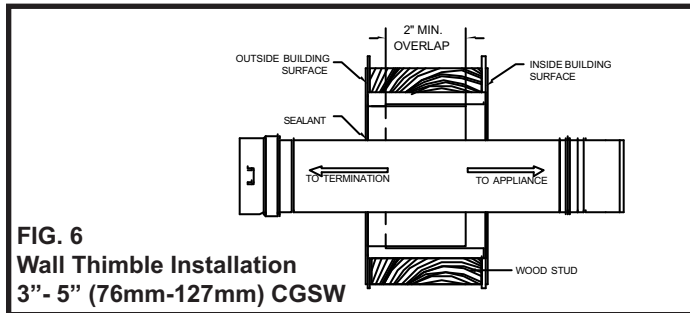

FIG. 6
6. Once the Thimble is installed, Corr/Guard II vent pipe can be inserted into the Thimble. For 3" - 5" diameter Corr/Guard II insert the male end first. (See **FIG. 6, 7 & 8**).